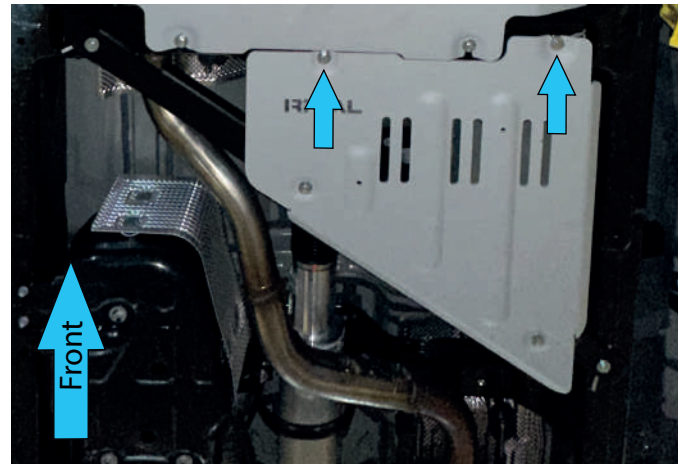

Fig. 5
5. Slide the transfer case skid plate (item 1) over the previously installed hardware from step 4 as shown in Fig. 5.